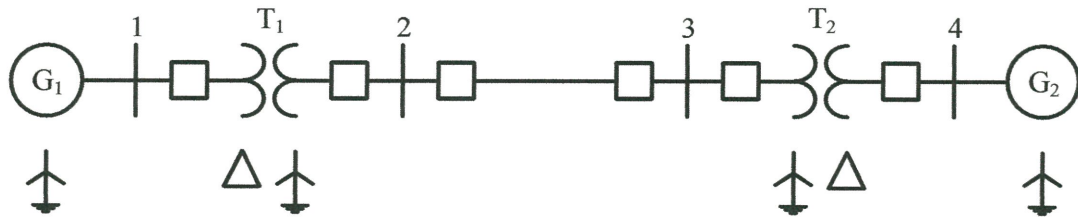

FIGURE Q2(a)
- Q2** (a) The reactance data for the power system, shown in **Figure Q2(a)** in per unit system, on a common base is tabulated in **Table Q2(a)**.
- (ii) State and discuss the **two (2)** main methods in analysing fault in power systems. (4 marks)